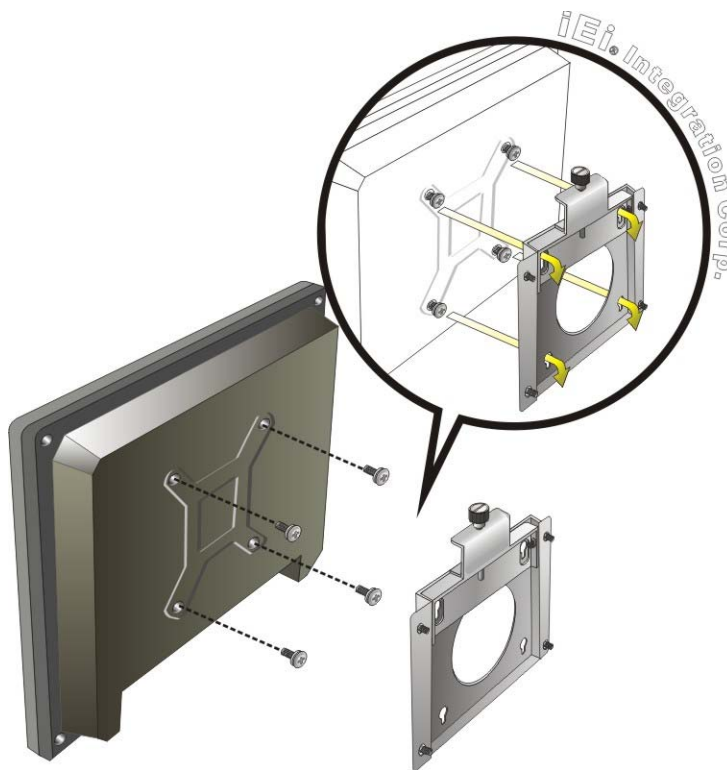

Figure 3-17: Chassis Support Screws
Step 6: Insert the four monitor mounting screws provided in the wall mount kit into the four screw holes on the rear panel of the flat panel PC and tighten until the screw shank is secured against the rear panel (**Figure 3-17**).
Step 8: Carefully insert the screws through the holes and gently pull the monitor downwards until the monitor rests securely in the slotted holes (**Figure 3-17**). Ensure that all four of the mounting screws fit snugly into their respective slotted holes.